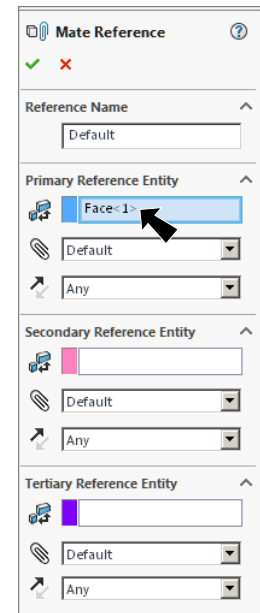

Fig. 16
select **FilletXpert**, Fig. 16
Step 3. In the Mate Reference Property Manager click OK , Fig. 16.